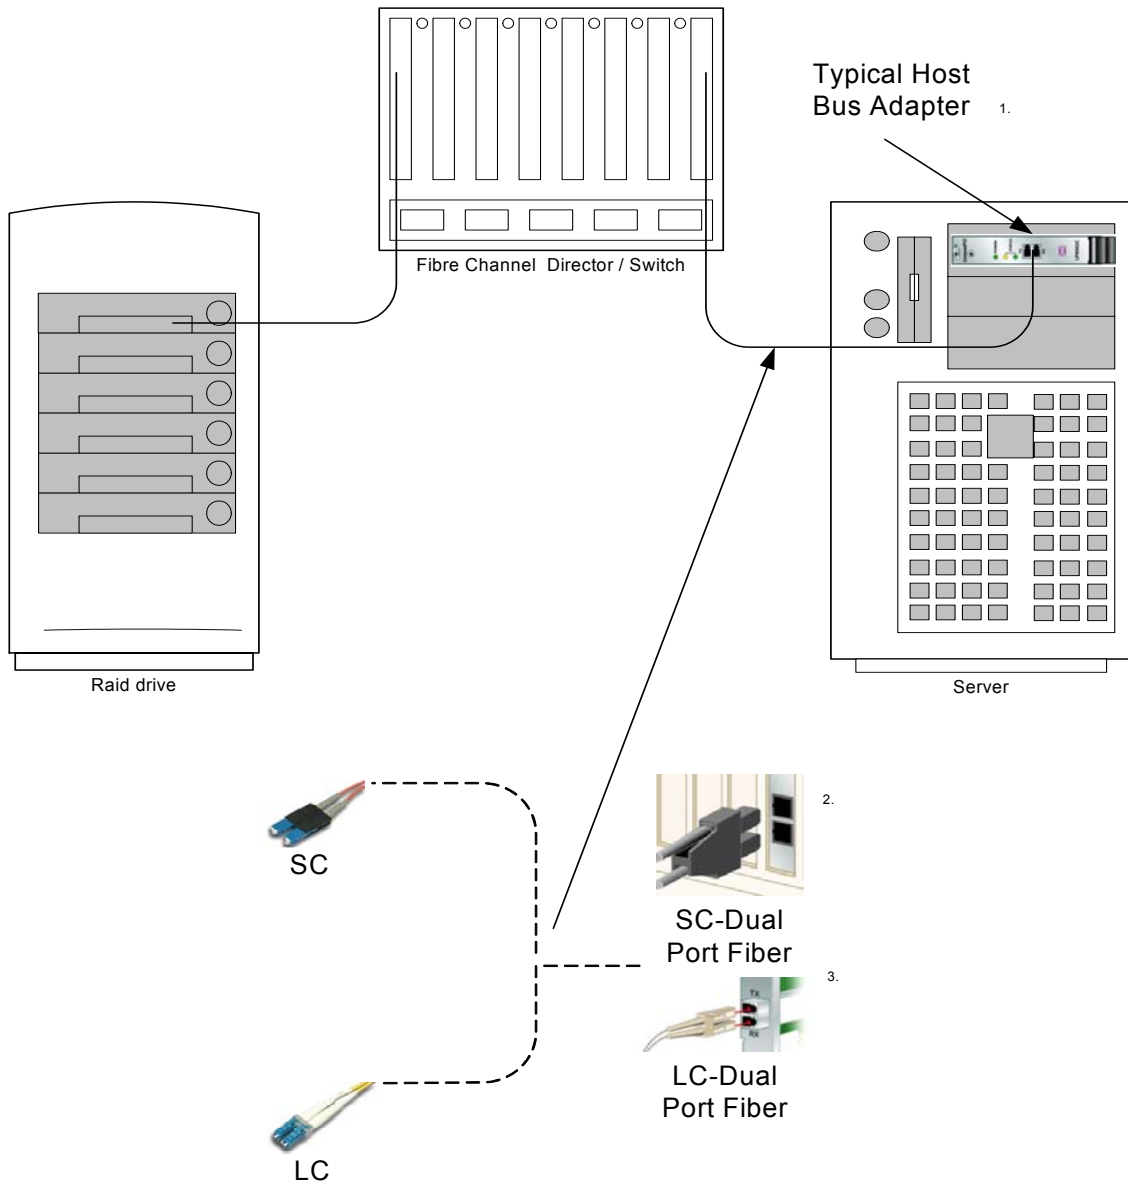
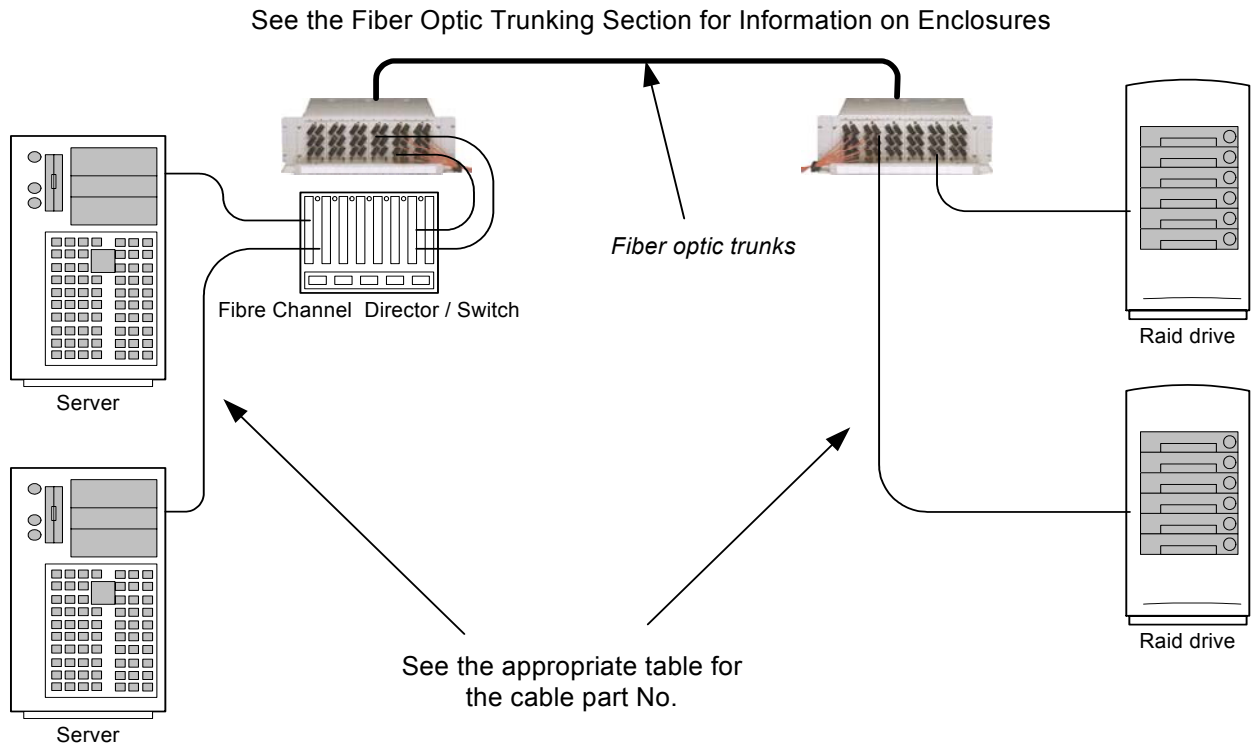

Figure 1.
Figure 2.
When installing a new Host Bus Adapter (HBA), you will need to select the right cable to connect the HBA to the network. Table (1) describes the two types of duplex connectors that are typically used on the HBA products. Depending on the HBA option, you will need to connect using either an SC or LC type duplex cable to interface the HBA port. Figures 1 and 2 show two examples of network connections that will need to be made.
Refer to Figures 1 & 2 on pages (10) & (11). Figure 1 depicts a simplified logical diagram. This type of diagrams shows the connections but not the detail needed to plan for your cabling needs. As stated earlier you need to understand what connectors are used at every interface so that the correct cables can be ordered. Figure 2 shows more detail and because it is a network design drawing it should identify every connector interface in the system. Your network documentation should list the distances and fiber type for every point-to-point link in the network. Now that you know the type of fiber and the installed cable length you can determine if there is a channel available for you to use and how much cable can be added to the link without exceeding the maximum length. If equipment is being added to support your server or storage device then there may be more patching and equipment cables required to make the connections to the network.